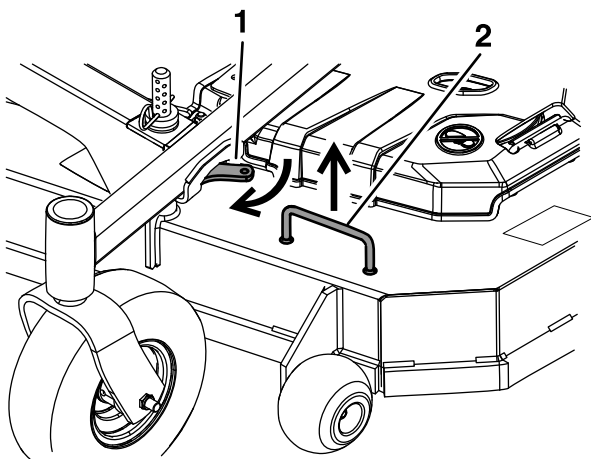
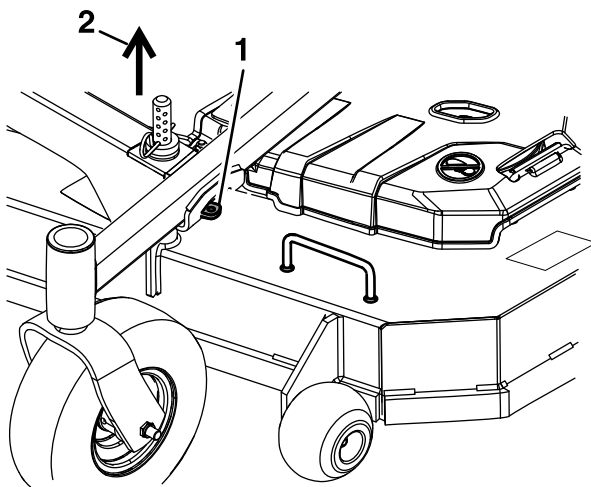

Figure 16
Figure 17
3. Lift the cutting deck using the handle as shown in Figure 16 (handle position varies with deck size) to the highest position possible. Engage deck height change assist lever by shifting forward until contact with the deck support rod is felt (see Figure 17). While the lever is manually engaged, lower the deck to rest on the lever.